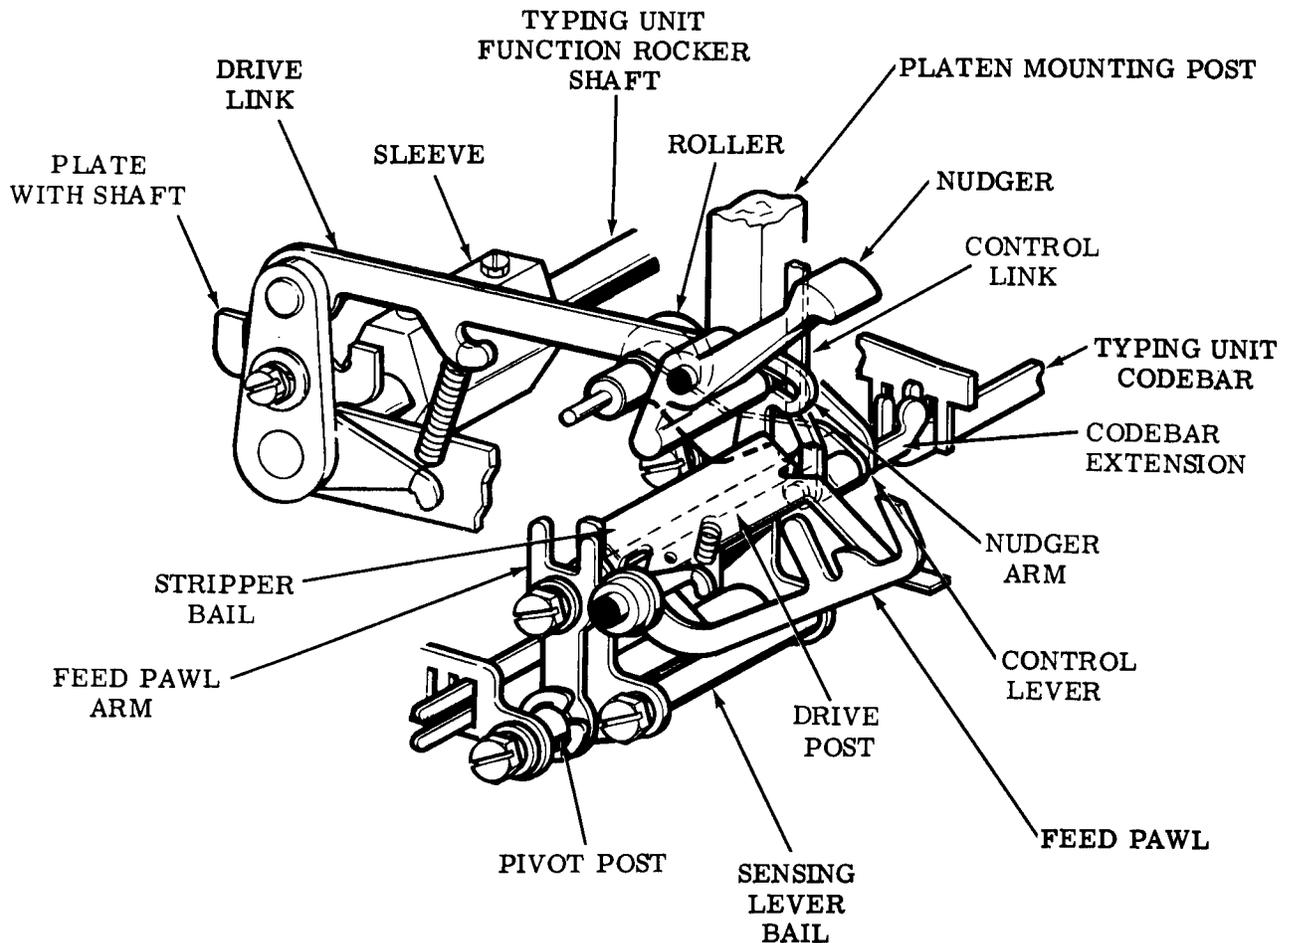

Figure 3 - Drive Link Mechanism and Drive Mechanism
shaft (Figure 3). A drive link, attached to the plate with shaft, connects to a drive post which simultaneously drives the nudger, feed pawl, and stripper bail, and supplies the downward force to pull the selected pawls by means of the sensing lever bail.
4.12 As the drive mechanism (Figure 3) rotates clockwise, the feed pawl slides along the inclined surface of the adjacent ratchet tooth, drops behind it, and is cammed away from the feed wheel ratchet. Occurring simultaneously, the sensing levers in the marking position rotate counterclockwise and transfer their motion to the selected pawl, lever, and code-punch pin combination. At the same time, the drive mechanism transfers its motion to the sensing levers which are spacing. Since their pawl, lever and code-punch pin combinations are in the non-selected position, no motion is transferred to them. This results in no perforation of the tape, since the code-punch pins remain in their most downward position below the tape's surface. As the drive mechanism continues and reaches its most clockwise position, the code-punch pin of a selected pawl, lever, and code-punch pin combination travels upwards, perforates a hole in the tape, and continues to its most vertical position. The feed hole is always perforated in the tape since its pawl and lever are always selected.
4.14 During the drive mechanism's clockwise motion, the nudger (Figure 3) performs its function. Motion is transferred from a cam profile located on the nudger arm through a post molded as an integral part of the nudger. The nudger rotates counterclockwise, engages, and nudges the tape gently when the selected code-punch pins are engaged with the tape. This enables the tape roll to be advanced a small amount without affecting tape feed spacing, since only the weight of the paper between the tape roll is reflected to the feed wheel when the tape is being advanced.